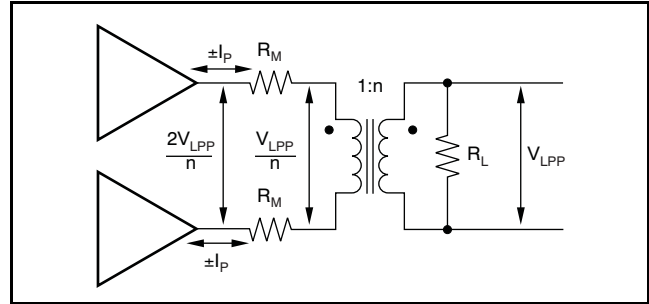
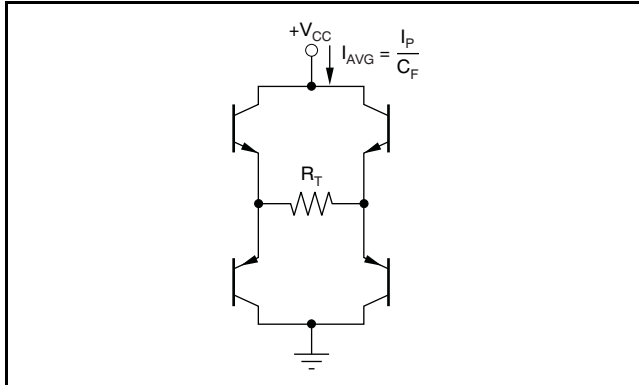

Figure 79. Driver Peak Output Model
Figure 81. Output Stage Power Model
The peak current is computed in Figure 79 by noting that the total load is $4R_M$ and that the peak current is half of the peak-to-peak calculated using V_{LPP} .
The total internal power dissipation for the OPA2673 in a line driver application is the sum of the quiescent power and the output stage power. The OPA2673 holds a relatively constant quiescent current versus supply voltage—giving a power contribution that is simply the quiescent current times the supply voltage used (the supply voltage is greater than the solution given in Equation 9). The total output stage power may be computed with reference to Figure 81.
The two output stages used to drive the load of Figure 79 can be seen as an H-Bridge in Figure 81. The average current drawn from the supply into this H-Bridge and load is the peak current in the load given by Equation 6 divided by the crest factor (CF). This total power from the supply is then reduced by the power in R_T to leave the power dissipated internal to the drivers in the four output stage transistors. That power is simply the target line power used in Equation 7 plus the power lost in the matching elements (R_M). In the examples here, a perfect match is targeted giving the same power in the matching elements as in the load. The output stage power is then set by Equation 10.